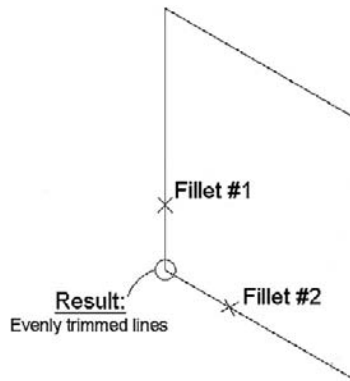

FIGURE 20.5
- Step 7.** Now use the Fillet command to fillet the line between Clicks 4 and 5 and Clicks 1 and 2. What is shown in Figure 20.5 is the result.